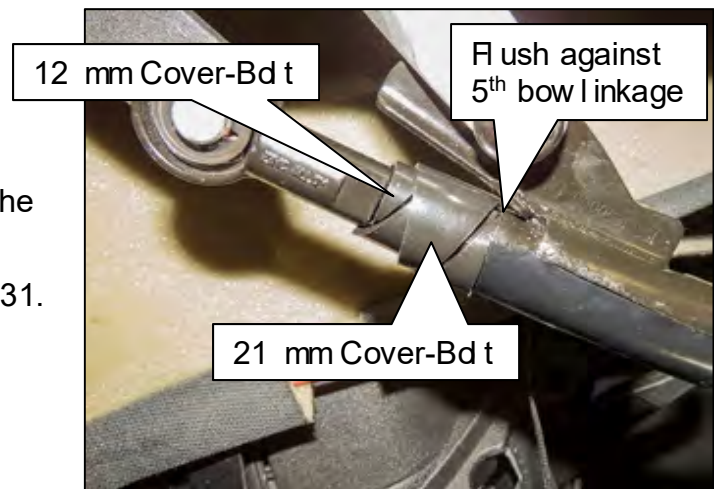

Figure 35
42. Install the 21 mm Cover-Bd t over the 12 mm Cover-Bd t (see Figure 35).